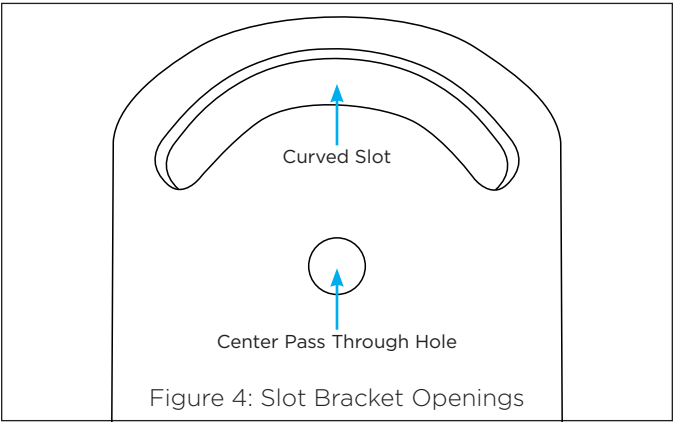

Figure 4: Slot Bracket Openings
- 1. Locate center pass through hole and curved slot on U-Bracket (see Figure 4).